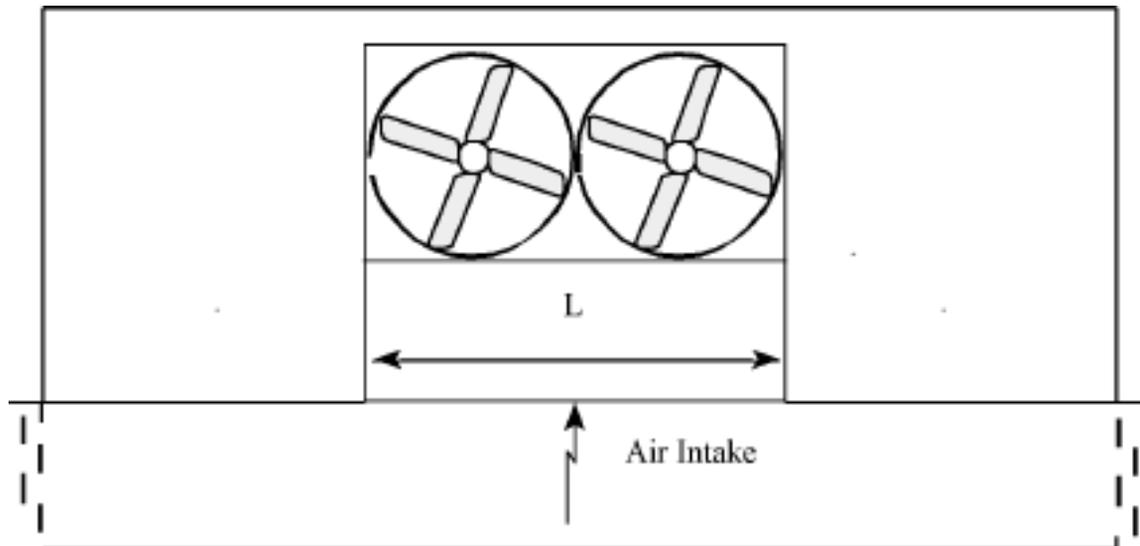

Figure 5: Plan view of single air inlet unit in enclosure with alternate louver arrangement
- a. The air intake directly faces the louver or slot locations as shown in Figure 5.